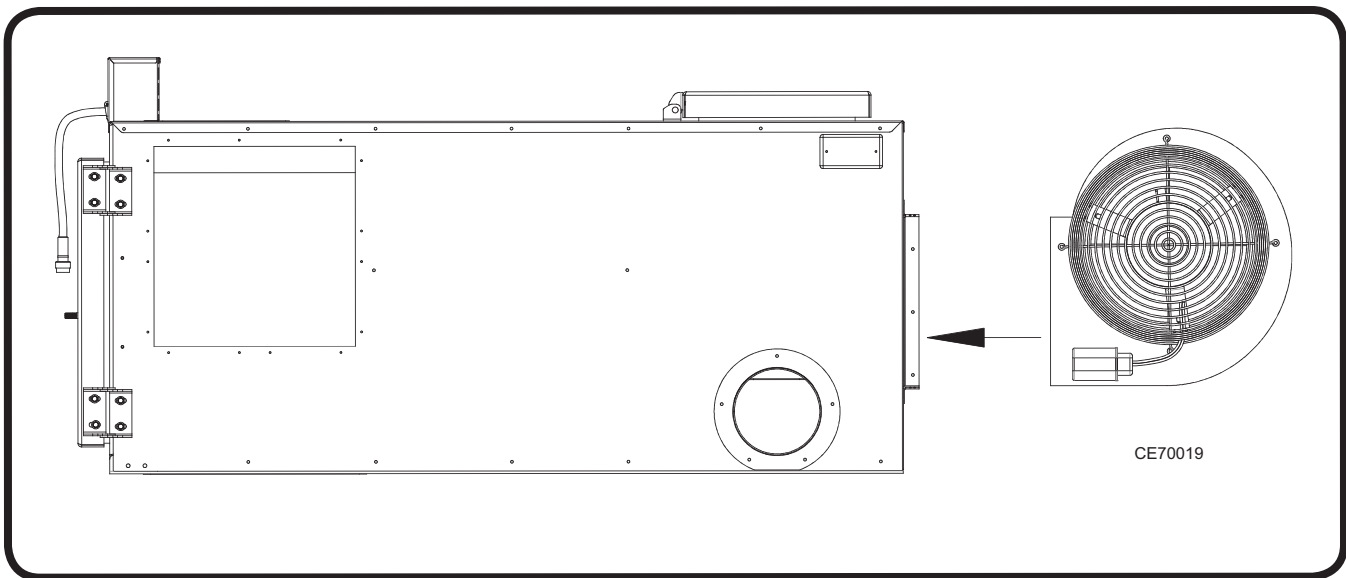

Figure 2: Blower Assembly Installation (CE-140, CE-180, and CE-250)
- (1) Refer to Figure 2.
- (2) Place the blower inside the mounting angles on the back of the furnace with the blower bubble turned up.
- (3) Use the included #10 self-drilling screws to secure the blower housing to the mounting angle brackets on the back of the furnace cabinet.
- (4) Connect the flexible conduit from the blower motor to the rear electrical box.
- (5) Connect the wire leads according to the electrical schematic label in the rear junction box.
- (6) Fasten the blower guards with the remaining #10 self-drilling screws to each side of the blower.